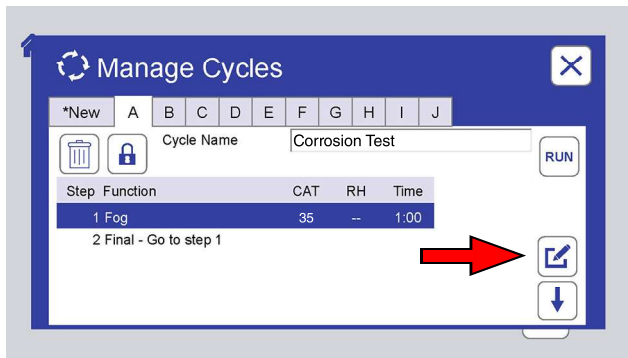
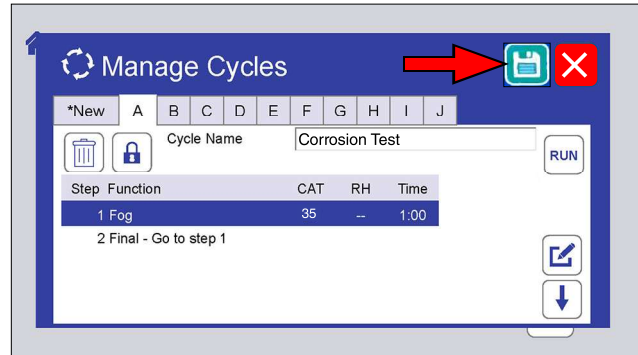

Figure 9.6.4a: For any cycle, a new step can be added before or after an existing step. Select the existing step then touch the Edit icon.
Figure 9.6.6d: Touch the Save icon to save the edited cycle.
- o Add, edit, or delete steps in a cycle (Figure 9.6.4a through Figure 9.6.6d). **NOTE:** Pre-programmed test cycles cannot be edited (they can be deleted).